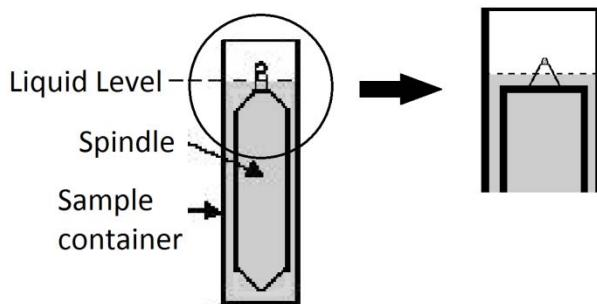

Fig. 13: Full APM adapter.
- Close the sample (K) container with the stopper (M).
- Insert the container (K) to the lower part, in the circulation jacket (J) by turning it gently.
- Fasten the circulation jacket (J) to the connector (G)
- Connect the hook (H) and the spindle (L)
- Insert the spindle (L) in the circulation jacket (See the note \* below)
- Fasten the connector (G) to the hole in the back of the viscometer's metallic base (**See the note \*\* below**)
- Check the level of the sample. It should be approximately in the middle of the cone, which is connected to the spindle connector (H). Figure 13 shows more information about this.
- Place the upper stopper (N) over the sample container.